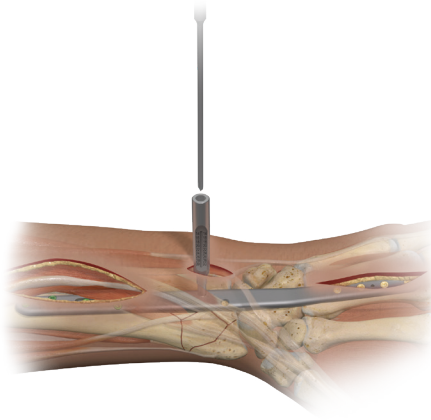
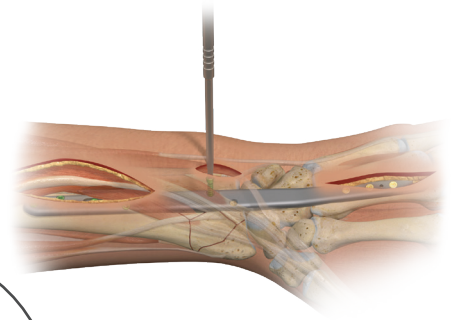
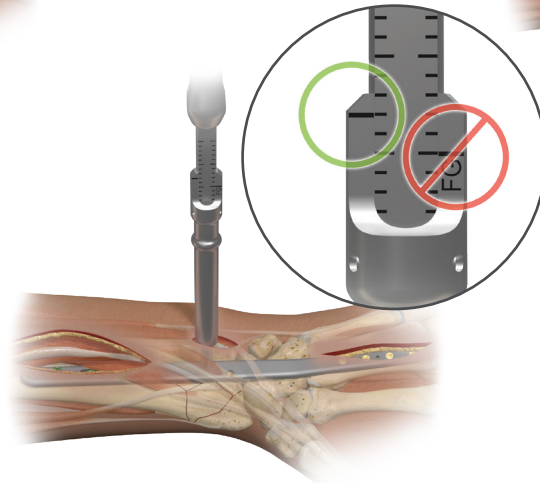

Figure 16
Figure 18
Figure 17
**Central Screw Fixation:** If the central screw cluster is utilized, dissect down to the distal radius as described above. Additional articular reduction can be performed through direct manipulation of fracture fragments. Drill (Figure 16), measure (Figure 17), and insert locking screws (Figure 18).